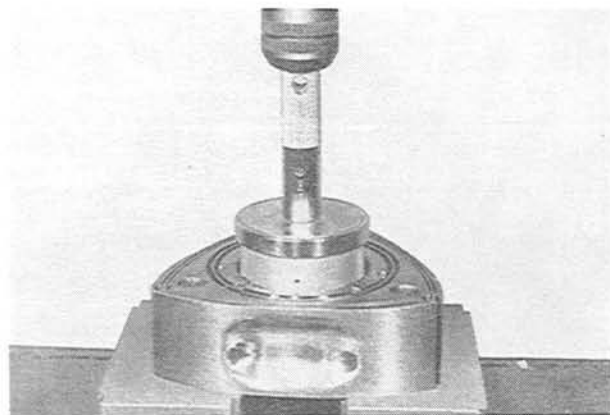

Fig. 1-53 Installing rotor bearing
**Note:** (1) Do not exert strong pressure at only one place to prevent deformation of the oil seal.
(2) Be careful not to damage the lip of the oil seal. Use a certain protector shown in Fig. 1-53.